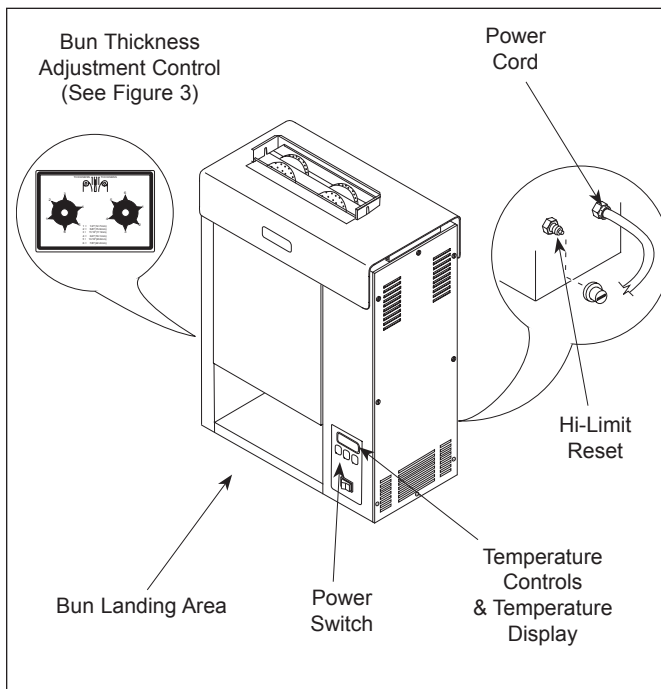

Figure 2. VCT-2000 Toaster
NOTE: The temperature display (Figure 2) will flash “LO” until the toaster reaches its preset operating temperature. When the toaster approaches the preset temperature of 585°F (307°C), “USE” appears in the temperature display and the unit is ready to toast buns. If “USE” does not appear in the window after approximately 30 minutes, contact your Authorized Service Agency.
3. Drop Crowns and Heels into the slot (Figure 2).
4. Toasted buns will drop into the Bun Landing Area (Figure 2) in approximately 10 seconds.
A Hi-Limit Control turns off electrical power to the heater and control circuits if the platen overheats. To reset the control, allow 10-15 minutes for the unit to cool, then locate the Reset Button at the rear of the unit. Remove the black protective cap, press the Reset Button, and reinstall the protective cap (Figure 2).